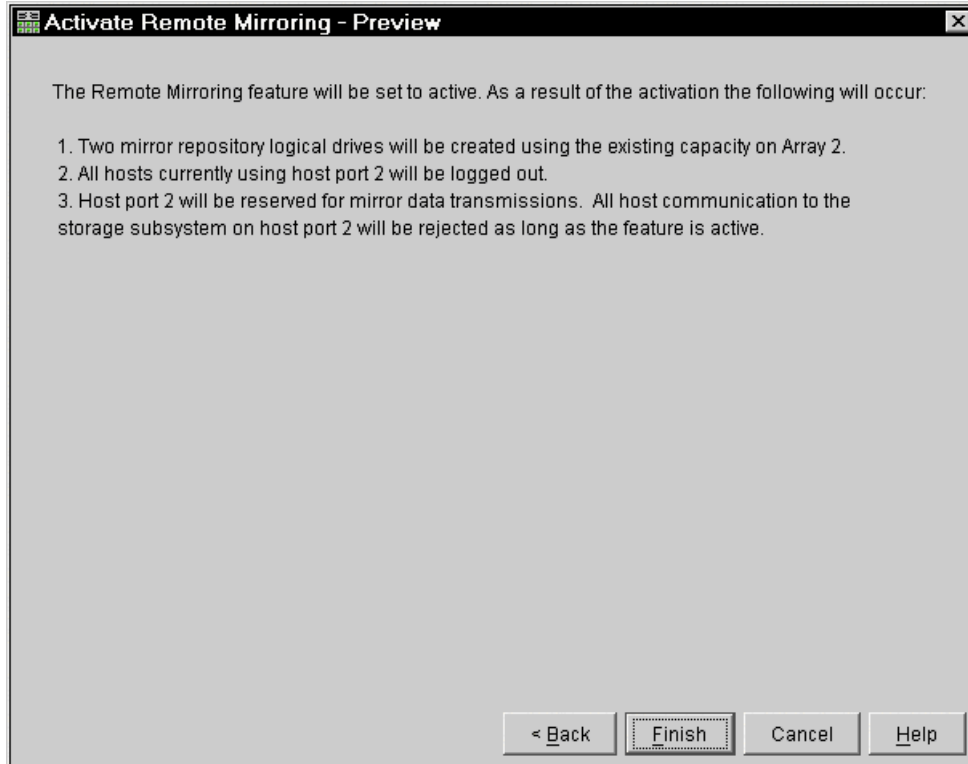

Figure 6-15 RVM Preview window
- iii. An information preview window opens (Figure 6-15). Review the information and click **Finish**.